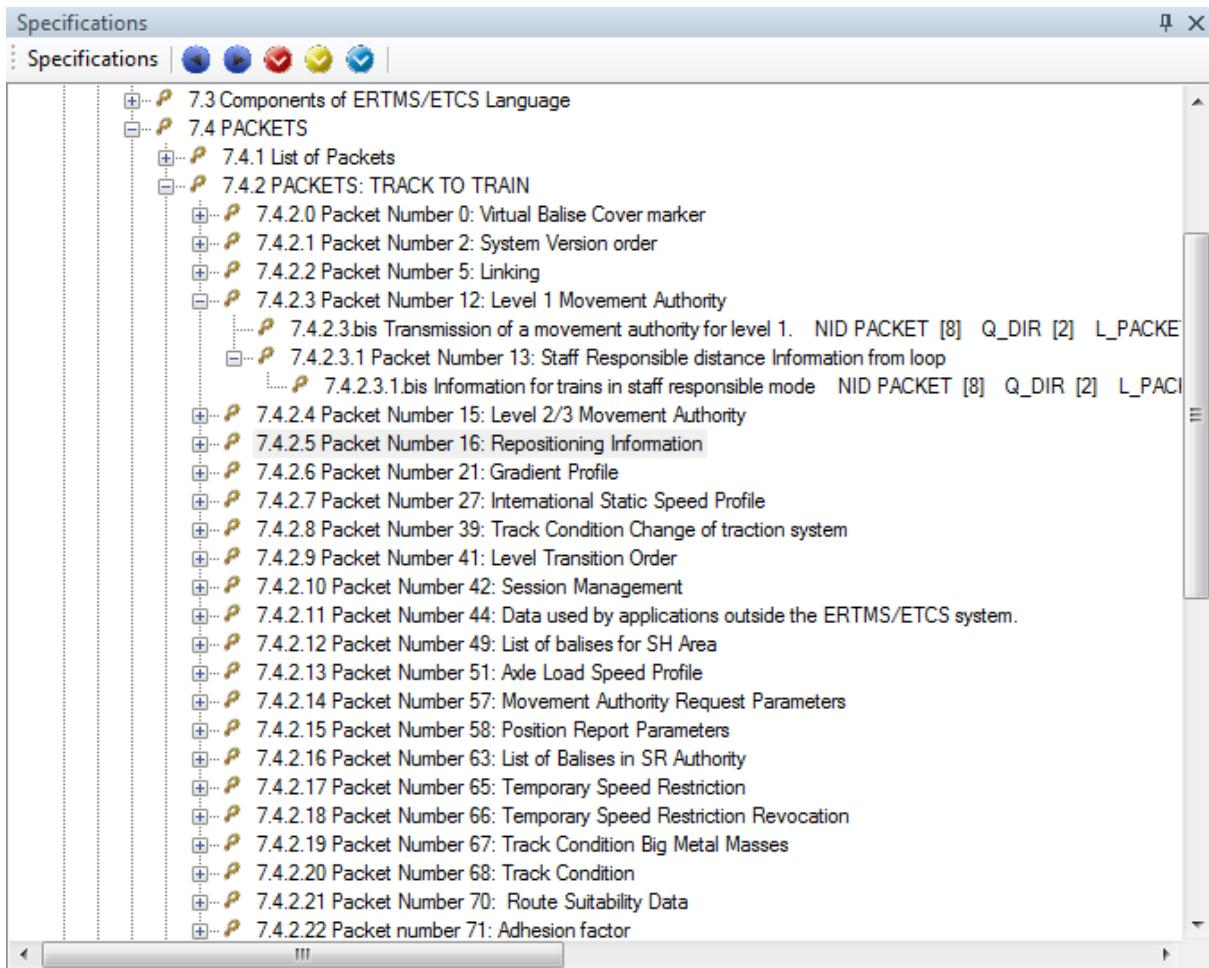

Figure 18: Selected Subset Specification view.
- **The hierarchical tree view:** on the upper left side, displays the input specifications in hierarchical order. It faithfully mirrors the content of the selected Subset as depicted by Figure 18.